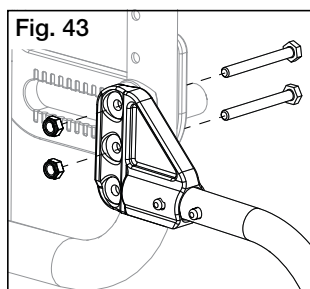

Fig. 43
2. Adjusting Position of Anti-Tip Receiver (Fig. 43)